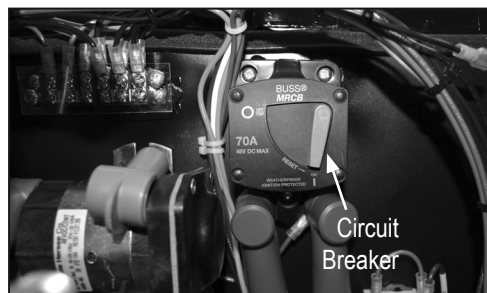

FIG. 16
1. Verify 70 Amp circuit breaker is in "ON" position (Figure 16).